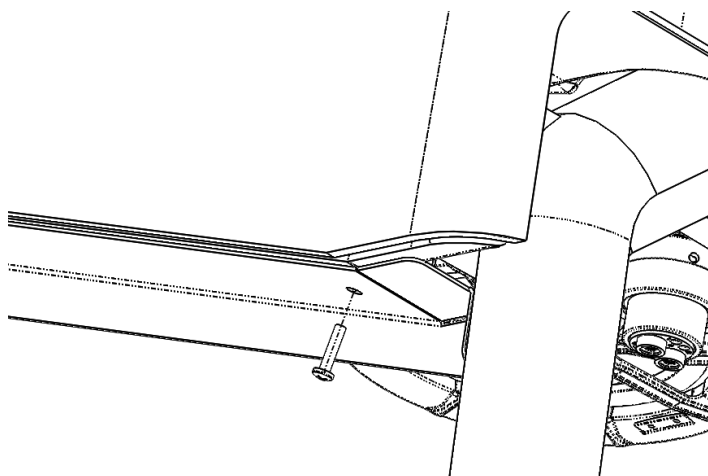

Figure 21: Attach the bracket to the roof using #8 sheet metal screws.
4. Attach the bracket to the fiberglass roof using seven of the supplied #8 sheet metal screws as shown in Figure 21.